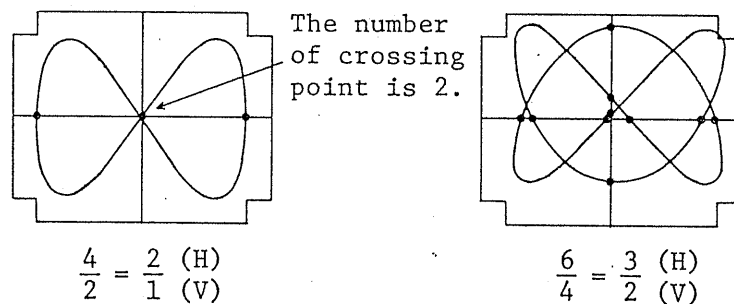

Fig. 14
- o Frequency measurement with Lissajous figure (See Figs. 14 and 15.):
signal generator that the displayed pattern becomes stationary as shown in Fig. 14. From the displayed waveform, the unknown frequency can be calculated as follows: